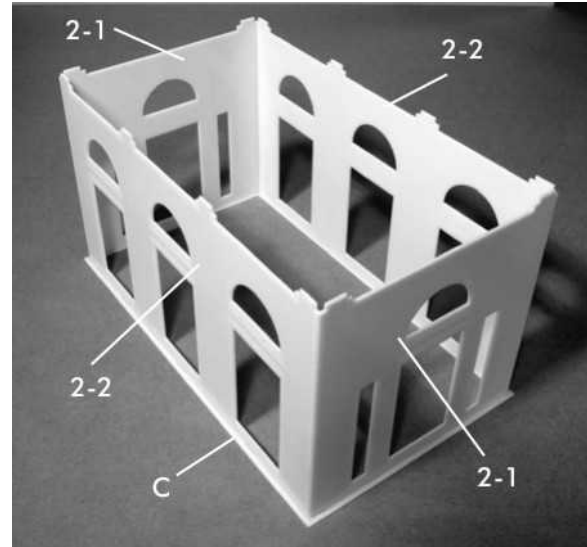

Figure 11
This unit is symmetrical, therefore both short walls and both long walls are identical. Take base (C) and lay it flat on your work surface with the engraved part number facing up. Working your way around the base, glue parts (2-1) into the short sides of base (C), and glue parts (2-2) into the long sides of base (C). Make certain that all the tabs are seated properly and all corners are glued together at right angles. You may wish to test fit, **but do not glue**, the roof (D) into the top of the Unit 2 assembly. See Figure 11.